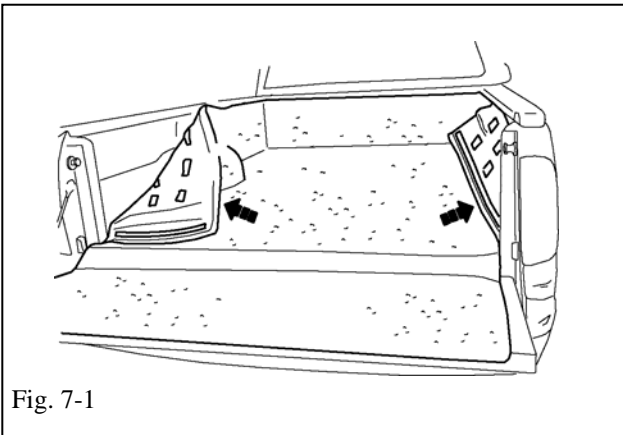

Fig. 7-1
- (a) Rear vertical edge of BedRug should be positioned to match D-pillar surface. Start at front and working rearward begin removing film from fasteners bottom to top front to back. Firmly press the Bed Rug sidewall for 15 seconds to insure adhesive attachment. Repeat for other side. (Fig 7-1)